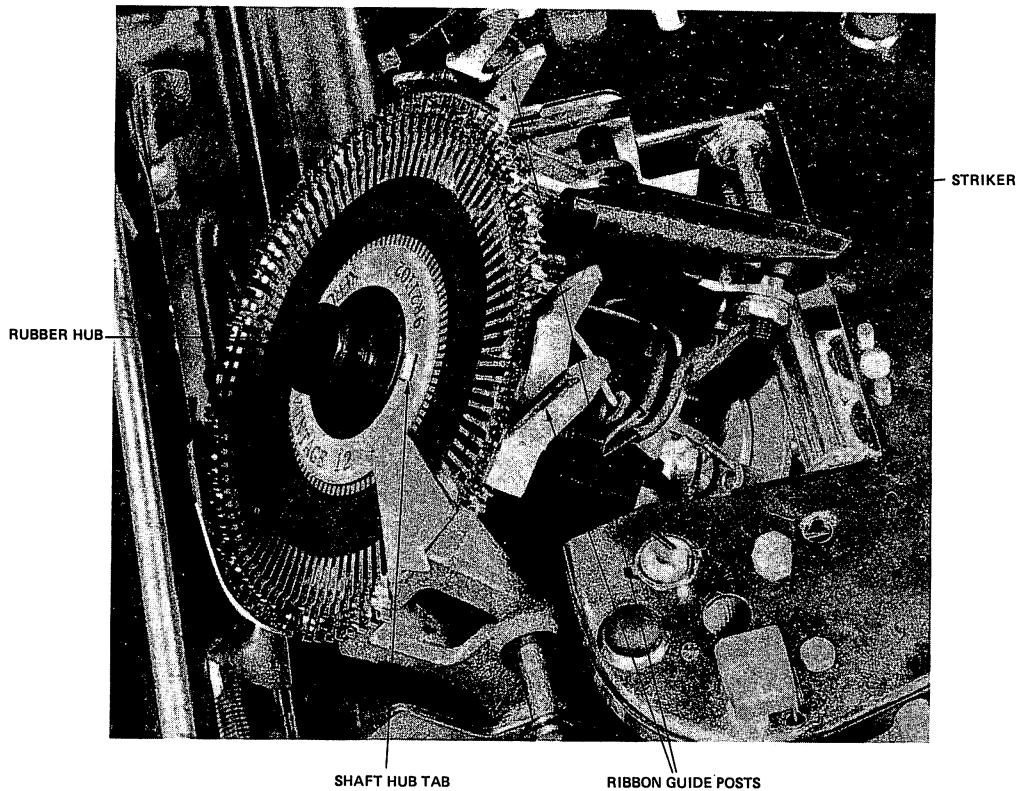

Figure 1-2. Removing the Print Wheel
4. To expose the print wheel, tilt the inner carriage assembly away from the platen by pulling the ribbon guide posts (see Figure 1-2).